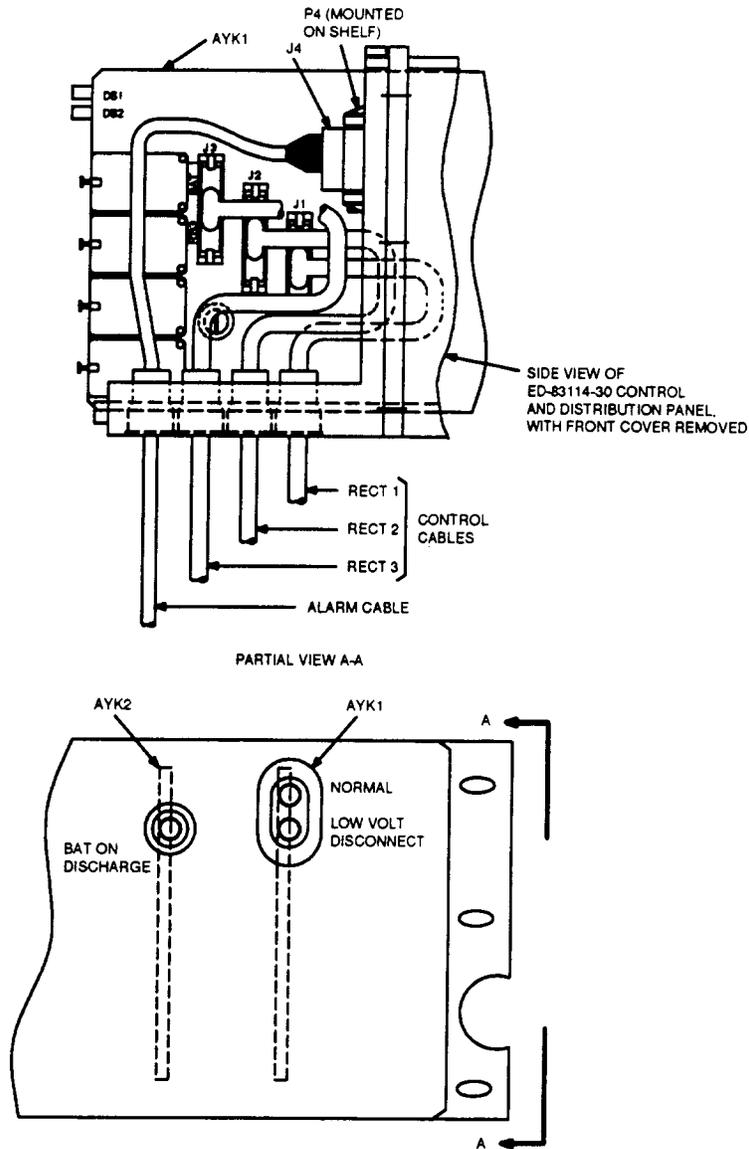

Figure 3 — AYK1 Circuit Pack Mounted in Control and Distribution Panel
6. Unseat (but do not remove) AYK1 circuit pack (Figure 3). Verify that rectifier control cables are connected with connectors firmly seated in J3, J2, and J1 sockets (Figure 3).
8. On right-hand side of shelf (Figure 3), verify that alarm cable is connected with **J4** connector firmly seated in **P4** socket (Figure 3).